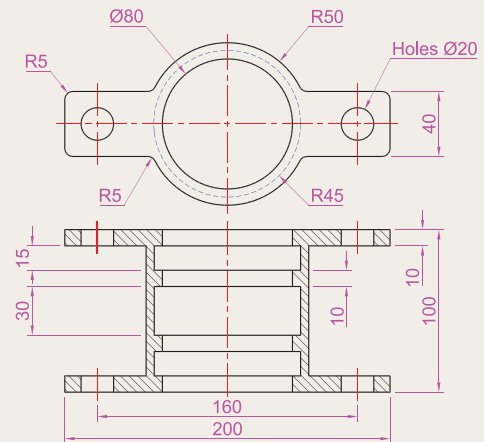

Fig. 14.46 Exercise 2
- Construct a 3D model drawing of the separating link shown in the two-view projection (Fig. 14.46). With the **Slice** tool, slice the model into two parts and remove the